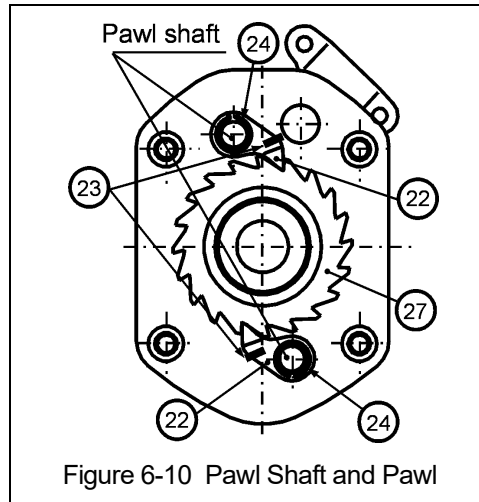

Figure 6-10 Pawl Shaft and Pawl
- 1) Lightly apply (G2) grease to the Pawl Shaft and (22) Pawl. Refer to Figure 6-10.
- 2) **⚠ CAUTION** Use a minimal amount of grease on (22) Pawl to avoid getting grease on the friction surfaces of the brake.
- 3) Fasten two sets of (23) Pawl Spring and (22) Pawl with (24) Snap Ring.